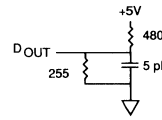

Fig. 2 OUTPUT LOAD EQUIVALENT
6.  $t_{HZCE}$ ,  $t_{HZWE}$  and  $t_{HZOE}$  are specified with  $C_L = 5pF$  as in Fig. 2. Transition is measured  $\pm 500mV$  from steady state voltage.